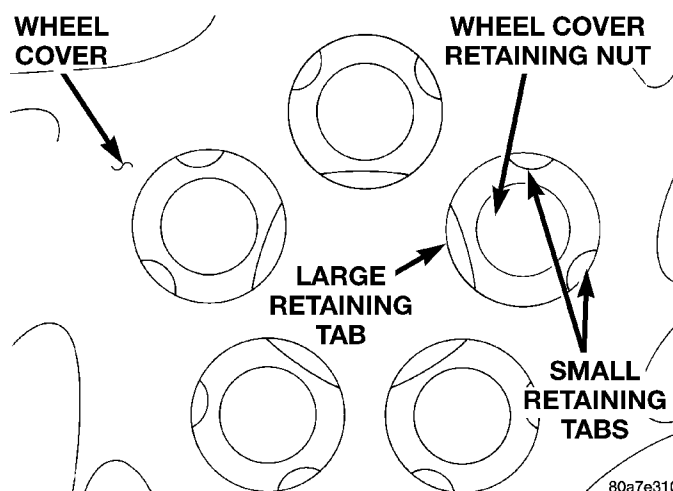

Fig. 15 Wheel Cover Retaining Nut Retention
(2) From the back side of the wheel cover, push outward and tilt the retaining nut sideways forcing the flange on the retaining nut past the 2 small retaining tabs in the retaining nut hole of the wheel cover (Fig. 15).
(1) Install retaining nut in hole of wheel cover with retaining nut flange positioned under the large retaining flange (Fig. 15).
(2) Push on hex of retaining nut forcing the retaining nut flange past the 2 small retaining tabs in wheel cover.